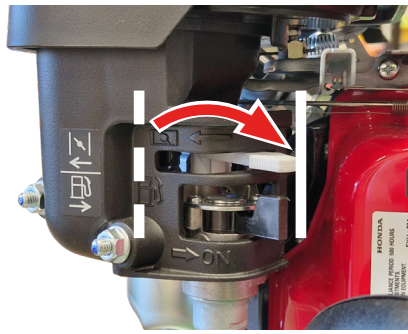

Fig.13G - Move choke lever into open position.
8. Gradually move the choke lever into the *open* position (towards the front) (Fig. 13G). Leave to warm up for 3-5 minutes.